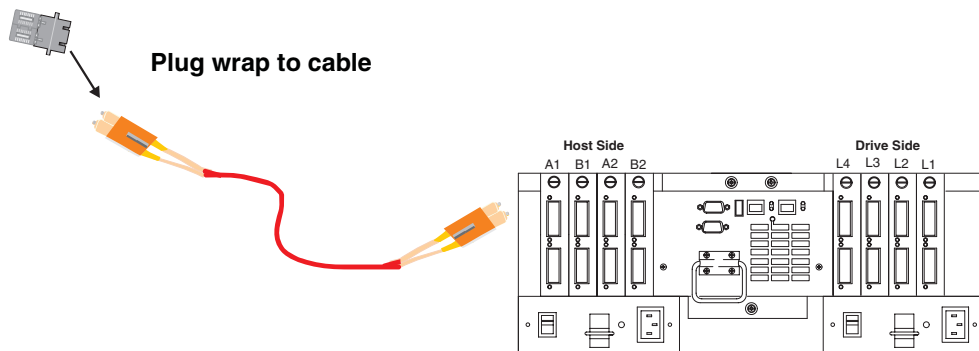

Figure 60. Install wrap plug
3. Insert the wrap plug from your kit into the female-to-female converter. See Figure 60.